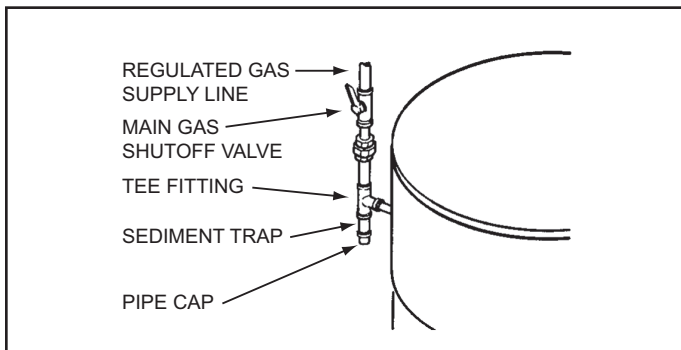

Figure 50. Supply Gas Line Installation
Ensure all gas pipe is clean on the inside before installation. To trap any dirt or foreign material in the gas supply line a sediment trap must be installed as shown in Figure 50. The sediment trap must be readily accessible and not subject to freezing conditions. Install in accordance with the recommendations of the local gas utility company.
7. Install a sediment trap as shown in Figure 50 on page 39.
8. Install a Main Gas Shutoff valve in the supply gas line as shown in Figure 50 on page 39.
1. For test pressures exceeding 1/2 psi (3.45 kPa) disconnect the water heater and its Main Gas Shutoff Valve from the gas supply piping system during testing, see Figure 50 on page